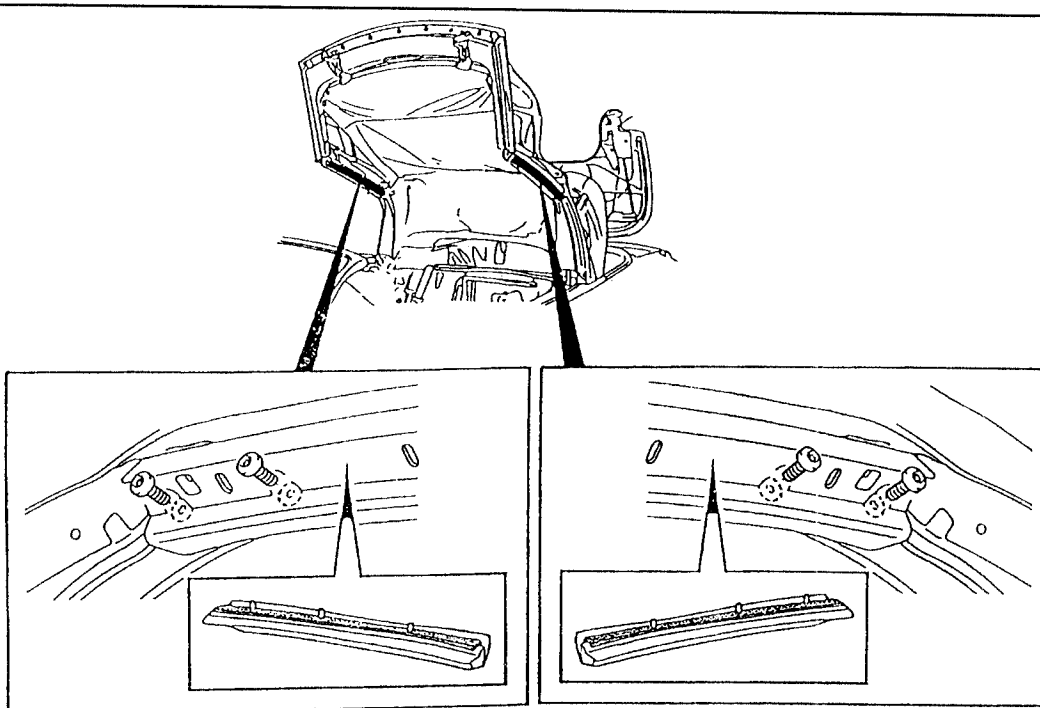

Figure 7. Tightening screws in balance link extension
2. Before removal is started, the positions of the dome nuts securing the side rail seals should be marked so that they can be refitted in the same places. See Figure 7.